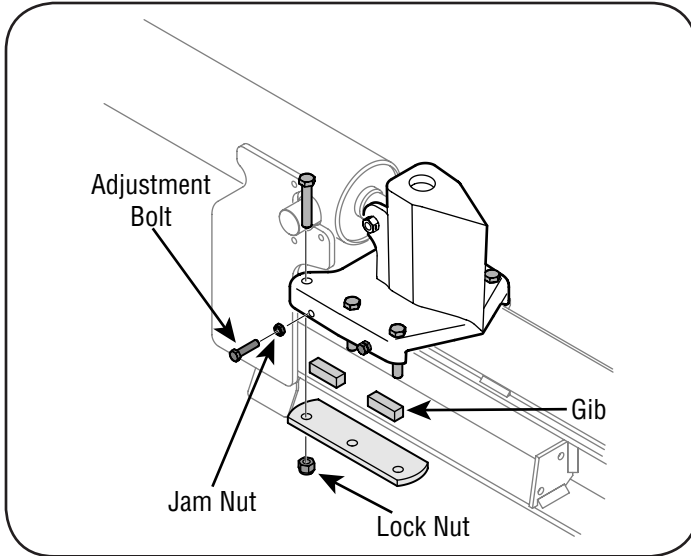

Figure 5-1
1. Loosen the lock nuts under each back plate and slide the gibs out. See Figure 5-1.